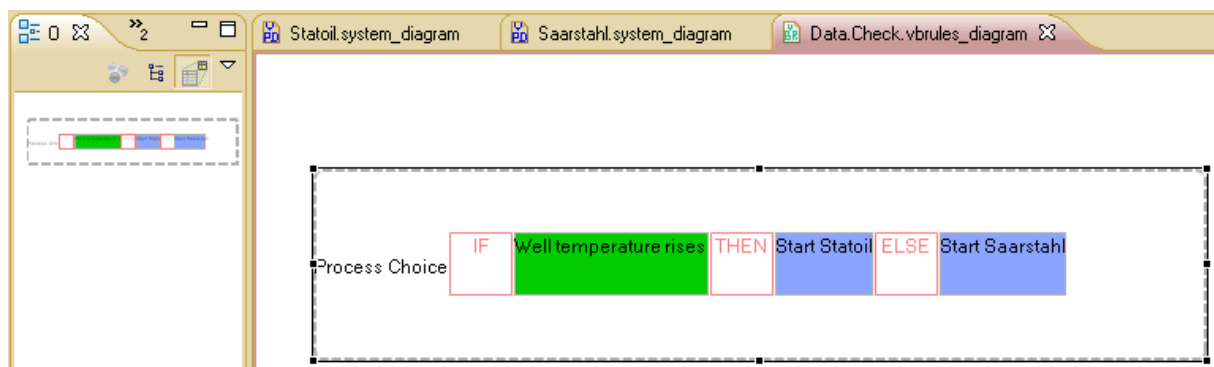

Figure 3. Business rule view simple rule model
**Step 4.** After modelling is finished the rule model may look like in Figure 3. Three views are now complete – data, organization and business rule. The process model itself is the next step.